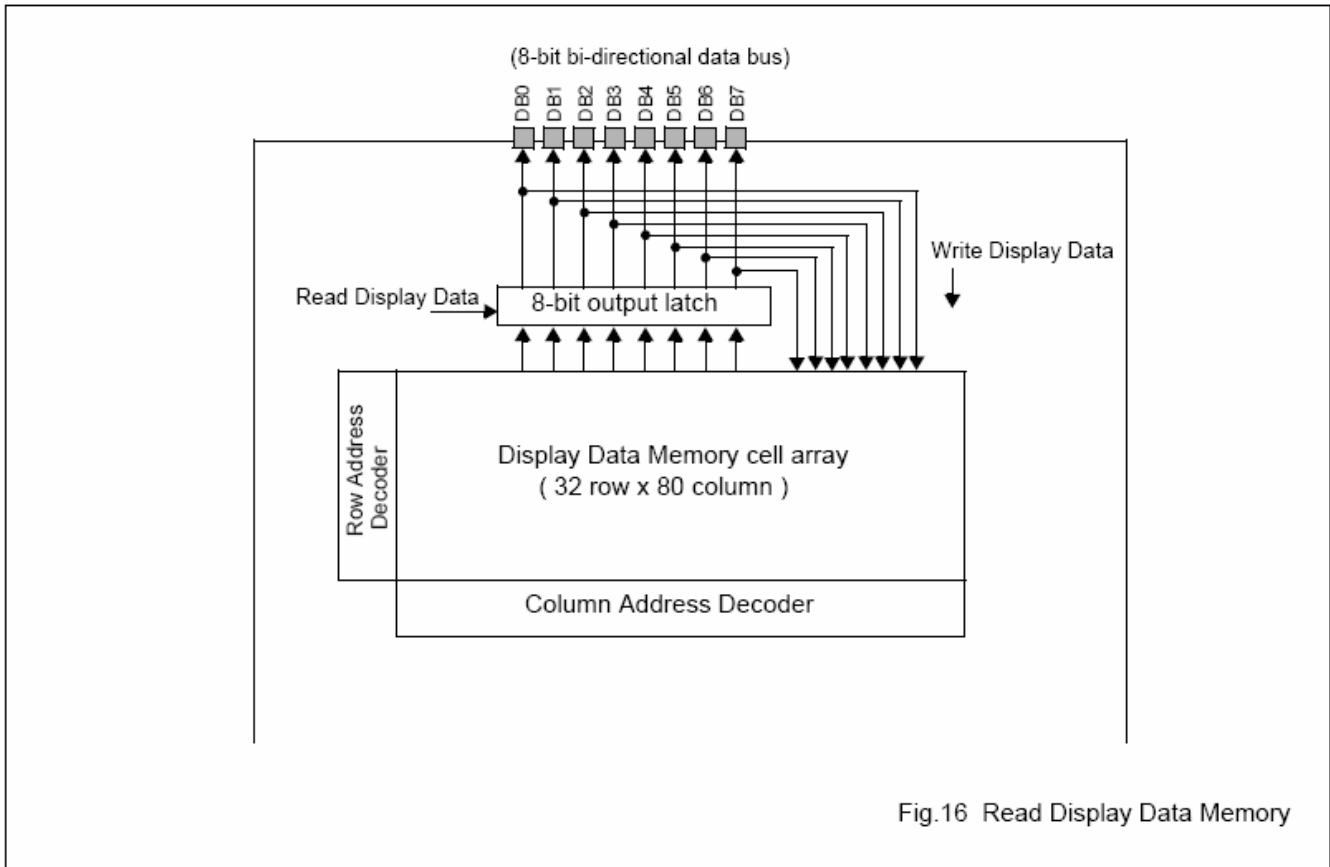

Fig.16 Read Display Data Memory
3. Finally, the content of the Column Address Register is automatically incremented by one. Fig. 16 shows the internal 8-bit output latch located between the 8-bit I/O data bus and the Display Data Memory cell array. Because of this internal 8-bit output latch, a dummy read is needed to obtain correct data from the Display Data Memory. For Display Data Write operation, a dummy write **is not** needed,